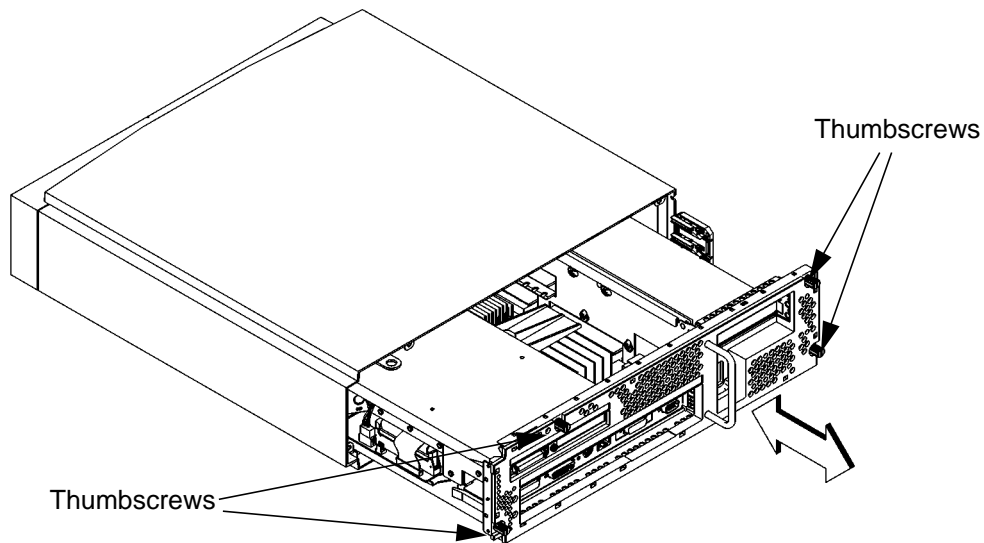

Figure 21
- 4 Remove the four thumbscrews on the rear of the system unit, as shown in Figure 21.
- 5 Place one hand on the top of the system unit and push, while pulling the handle on the rear panel with your other hand. See Figure 21.